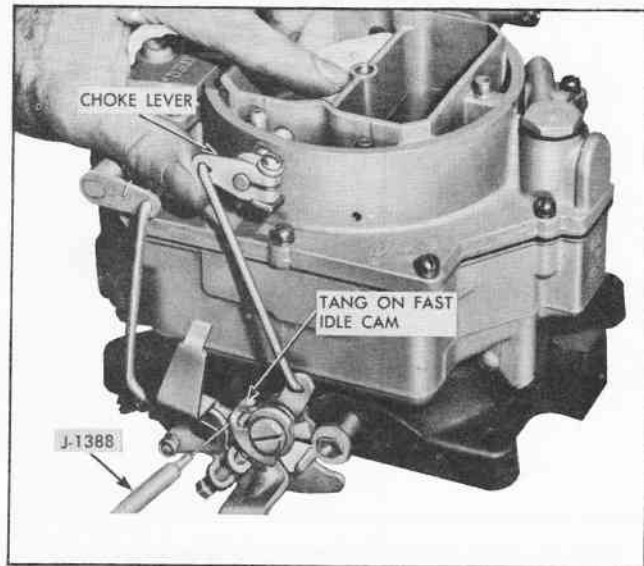

Fig. 28 Fast Idle Cam Clearance Adjustment
3. Place .020" wire gauge (J-1388) on boss, rotate choke lever on shaft until tang on fast idle cam contacts wire gauge and all slack in linkage is removed (Fig. 28). While holding in this position, tighten choke lever clamp screw.